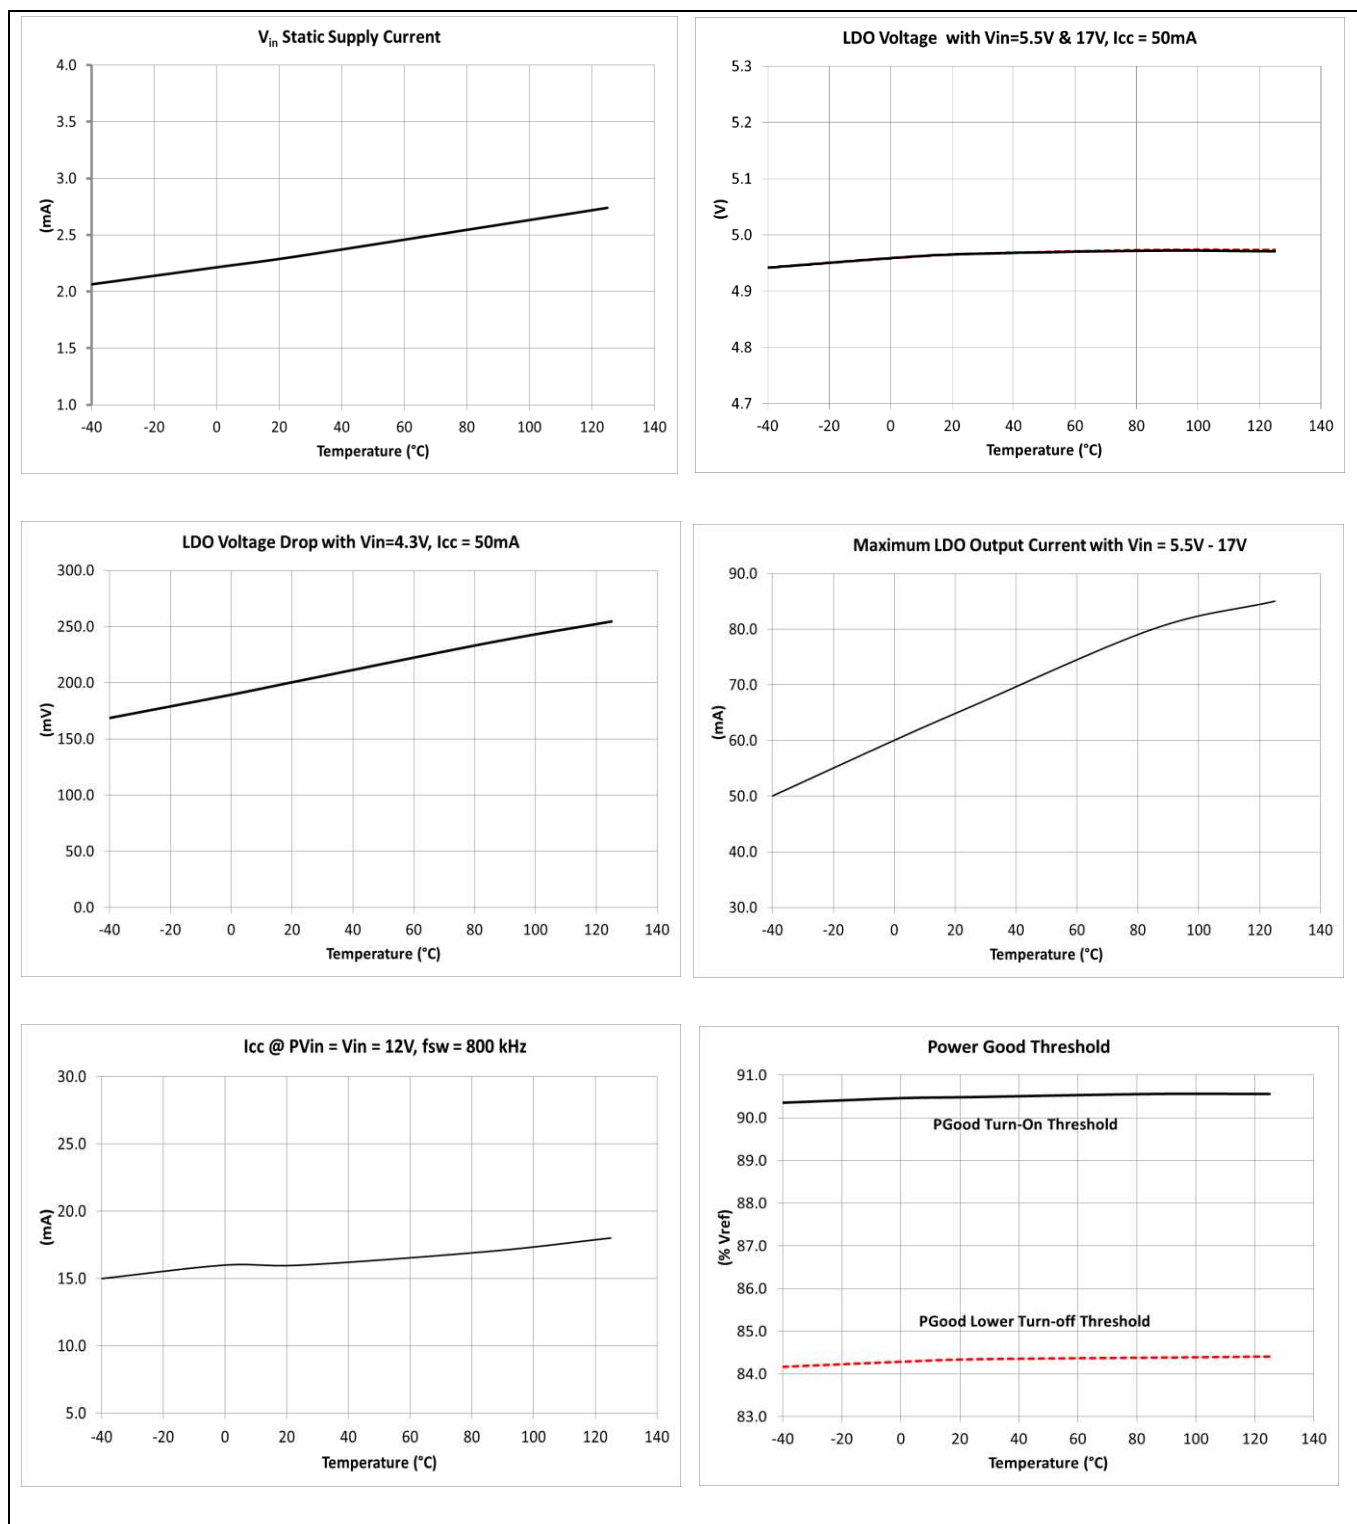

Figure 6 Typical operating characteristics (set 1 of 2)
10. The maximum LDO output current must be limited within 50 mA for operations requiring full operating temperature range of -40 °C ≤ T_J ≤ 125 °C. Figure 6 shows the maximum LDO output current capability over junction temperature. Thermal de-rating may be needed at an elevated ambient temperature to ensure the junction temperature within the recommended operating range.